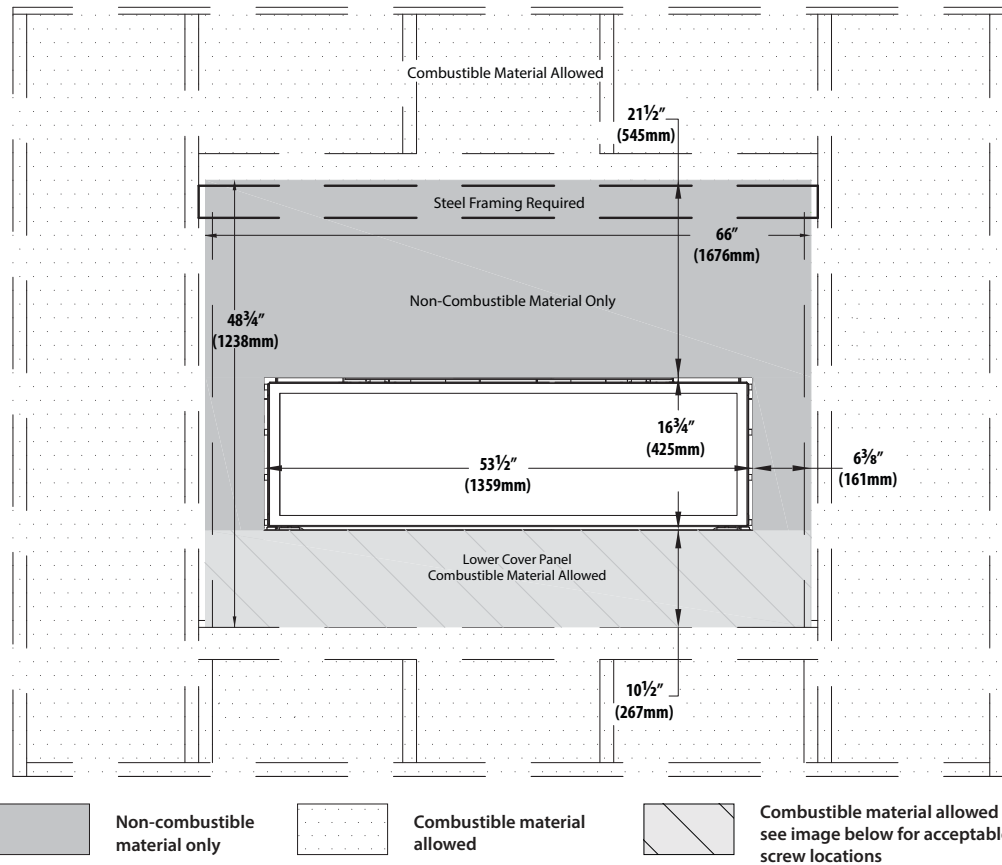
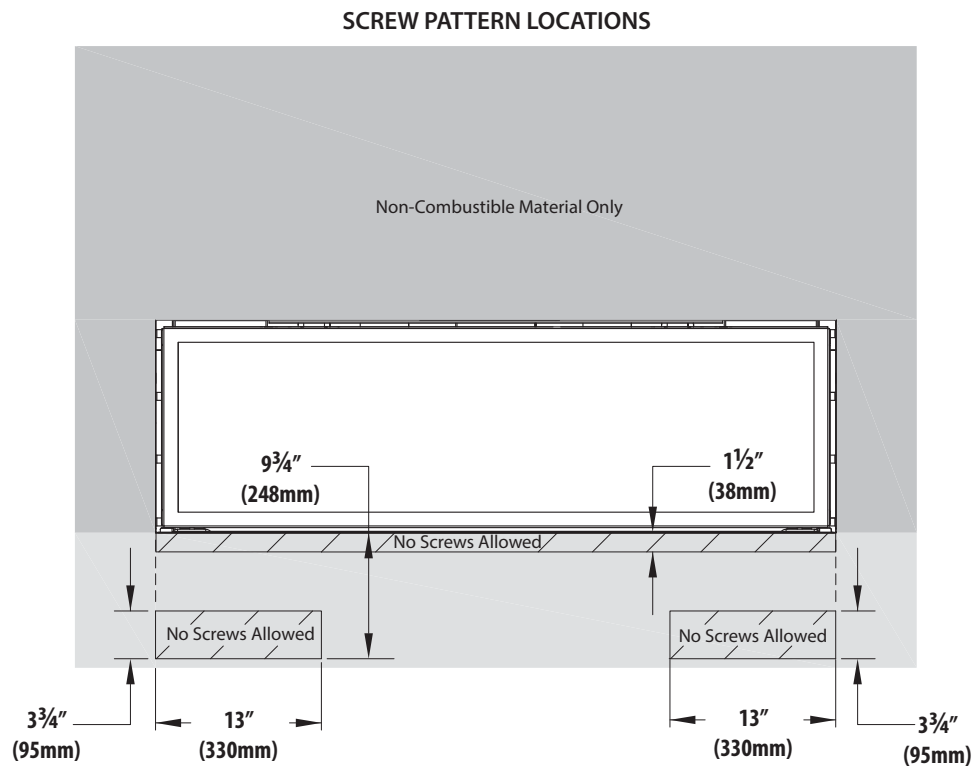

Figure 4.3, Minimum Non-Combustible Finishing Dimensions for all installations
Figure 4.4, Minimum Non-Combustible Finishing Dimensions Screw Locations for all installations
- Non-combustible material is required at the top of the fireplace. This fireplace is designed to accommodate non-combustible facing material up to 3/4" (19mm) thick. See Figure 4.3 and Figure 4.4 on page 29 for facing and finishing material dimensions.
- It is acceptable to pre-drill holes and to use self-tapping screws prior to attach the non-combustible material to the top and sides of the fireplace face. Do not use excessively long screws. Screws can only penetrate the fireplace outer shell up to 1/2" (13mm) in the allowed areas. See Figure 4.3 and Figure 4.4 on page 29.
3. Do not use screws above the framing for the gas and electrical components when installing the bottom panel. See Figure 4.3, Minimum Non-Combustible Finishing Dimensions for all installations on page 29 for maintaining required areas.
- Non-combustible material is required at the top and sides of the fireplace. This fireplace is designed to accommodate non-combustible facing material up to 3/4" (19mm) thick. See Figure 4.3 and Figure 4.4 on page 29.
- It is acceptable to pre-drill holes and to use self-tapping screws prior to attach the non-combustible material to the top and sides of the fireplace face, screws can only penetrate the fireplace outer shell up to 1/2" (13mm) in the allowed areas. See Figure 4.4 on page 29.
- This combustible material goes on any required non-combustible materials as shown in Figure 4.3 and Figure 4.4 on page 29.